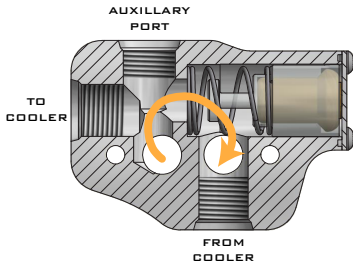

Figure 2 - Oil Path During Engine Warm-Up
1. The thermostat bypasses the oil cooler until the oil temperature reaches 180 °F (T4) or 212 °F (T7), shown in Figure 2.